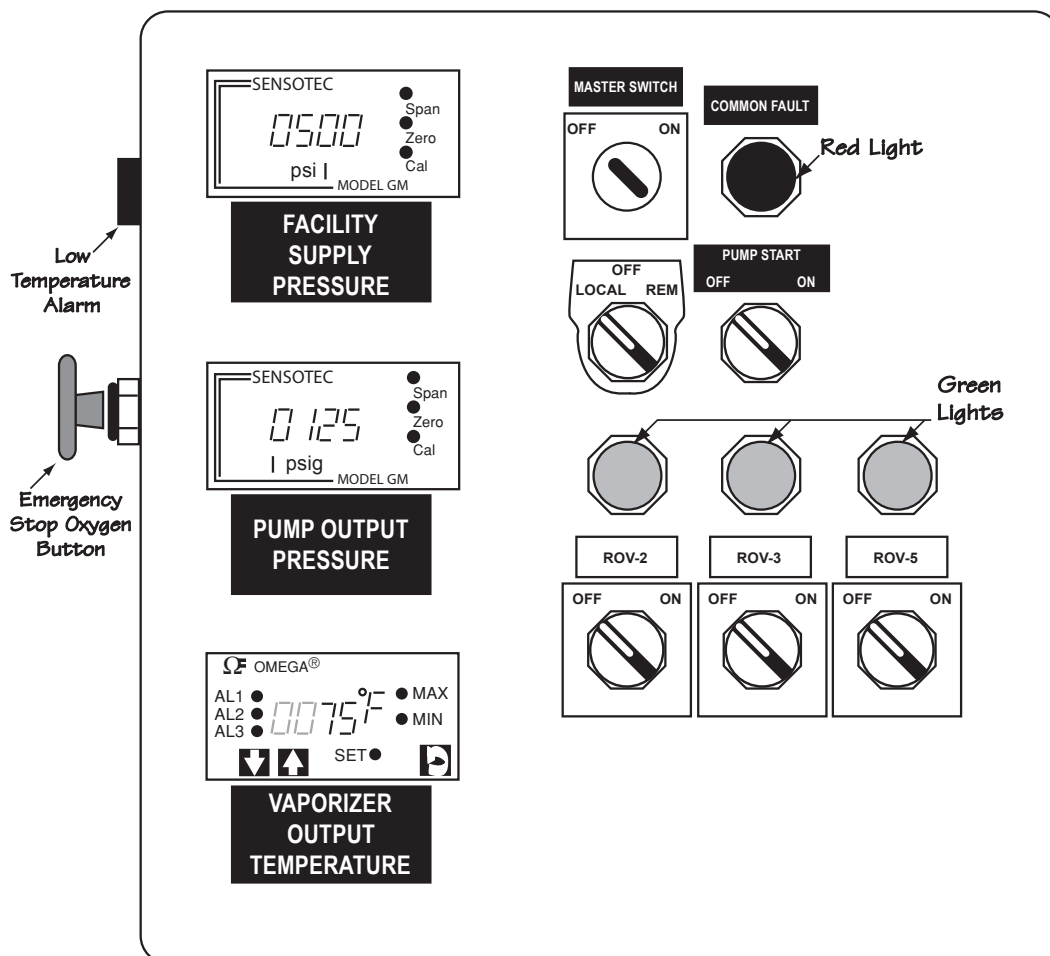

Figure 4-5. Oxygen Supply Master Control Panel inside Building 4623.
4.1.1.1. Check and record the Facility Supply Pressure as indicated on the Oxygen Supply Master Control Panel (Figure 4-5).
4.1.1.3. At the Oxygen System Master Control Panel (Figure 4-5):